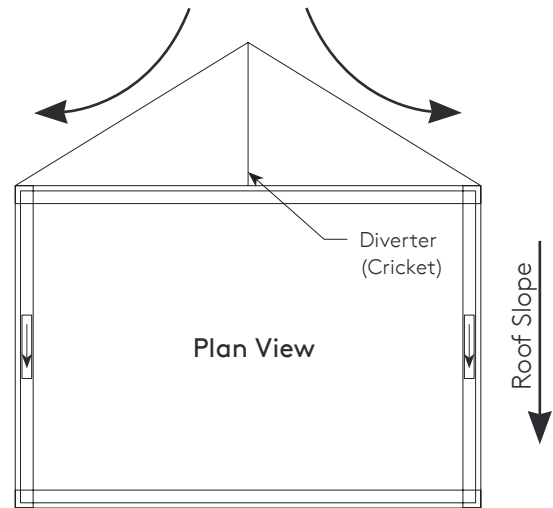

Figure 7.0
- On steep slope roofs a minimum 12" height above the roof is recommended and diverters should be used. (See Figure 7.0)